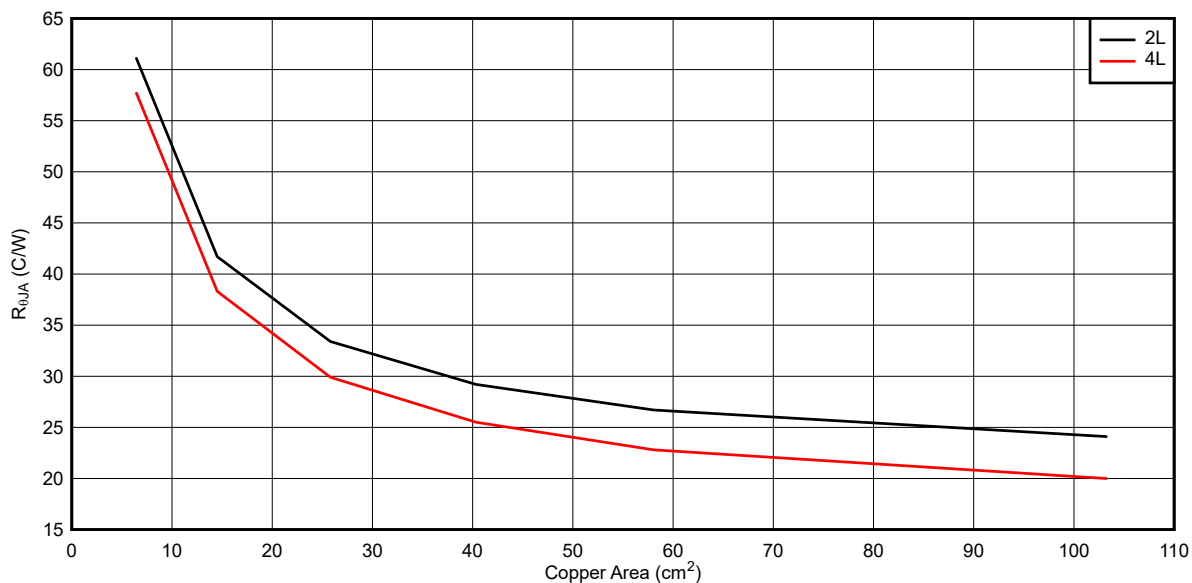

Figure 10-3. Typical $R_{\theta JA}$ Versus Copper Area
The LM5013-Q1 features a die attach paddle, or "thermal pad" (EP), to provide a place to solder down to the PCB heat-sinking copper. This provides a good heat conduction path from the regulator junction to the heat sink and must be properly soldered to the PCB heat sink copper. Typical examples of $R_{\theta JA}$ can be found in Figure 10-3. The copper area given in the graph is for each layer. The top and bottom layers are 2-oz copper each, while the inner layers are 1 oz. Remember that the data given in this graph is for illustration purposes only, and the actual performance in any given application depends on all of the previously mentioned factors.
the user can calculate the required $R_{\theta JA}$ of about 30°C/W. Based on Figure 10-3, the required copper area is about 40 cm² for a two-layer PCB.